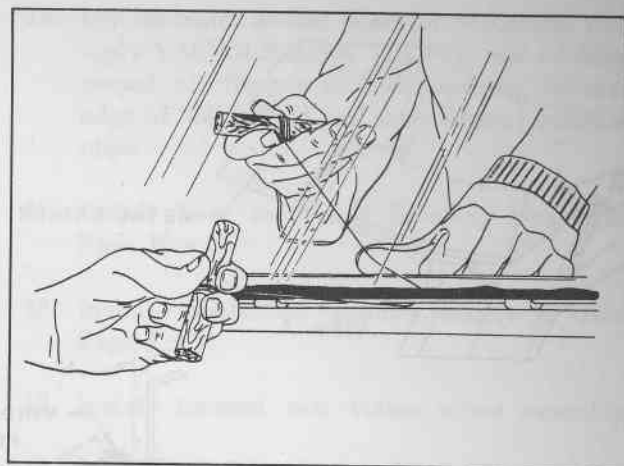

FIG. 9 - 1
2. Prime shaded area of complete body opening flange with the paint finish primer supplied in kit (see Views A and B, Fig. 9 - 2).
3. Position two spacer blocks at locations illustrated in View E, Fig. 9 - 2).